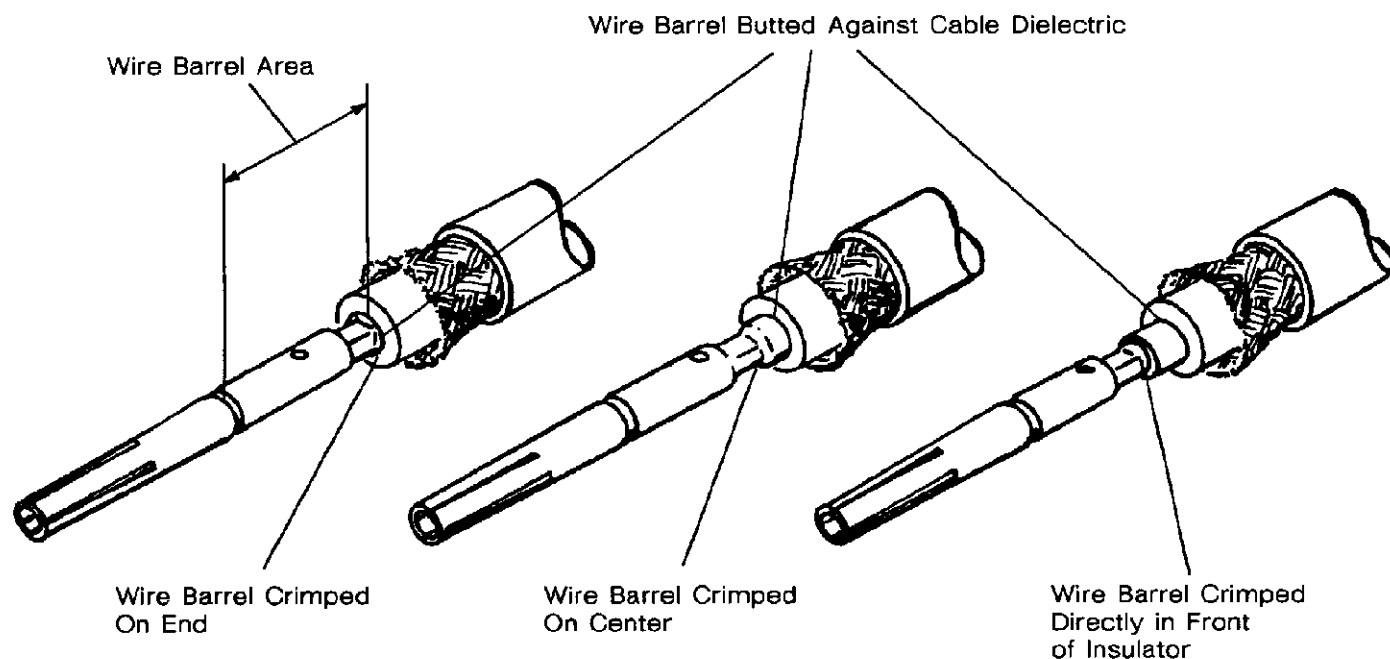

Fig. 4. Crimped Center Contacts
10. Check crimped contact to assure conformance to requirements specified in Figure 4.